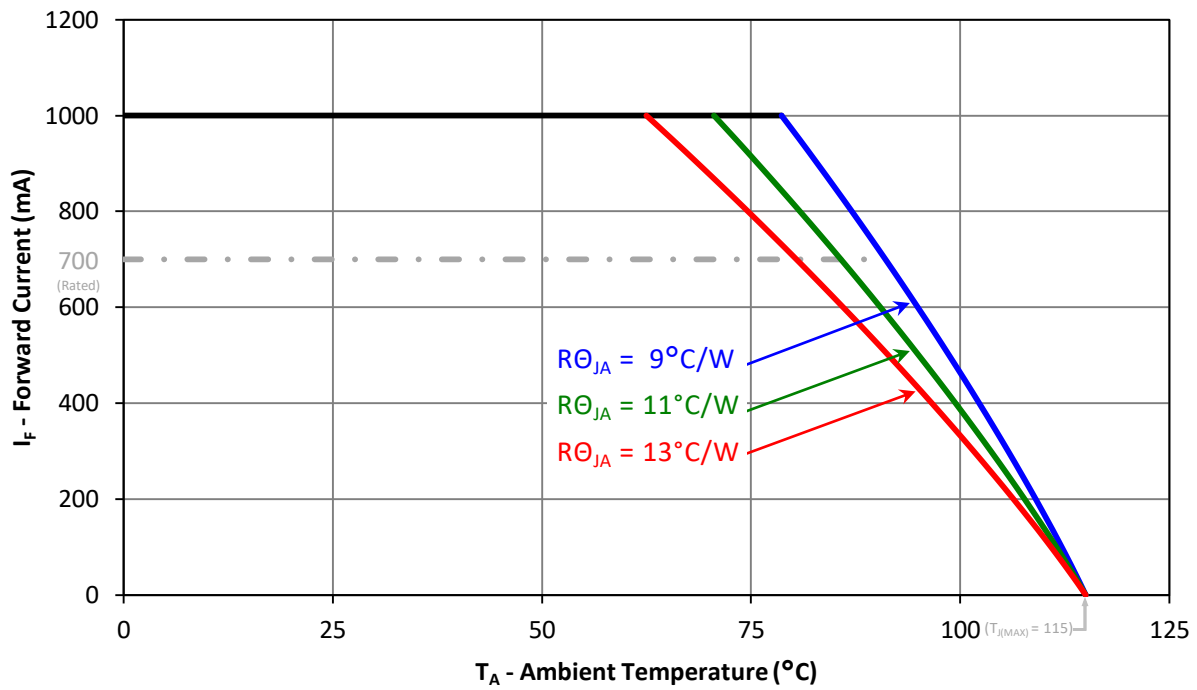

Figure 11: Maximum forward current vs. ambient temperature based on  $T_{J(\text{MAX})} = 115^\circ\text{C}$
- Maximum DC forward current is determined by the overall thermal resistance and ambient temperature. Follow the curves in Figure 11 for current derating.
Notes for Figure 11: